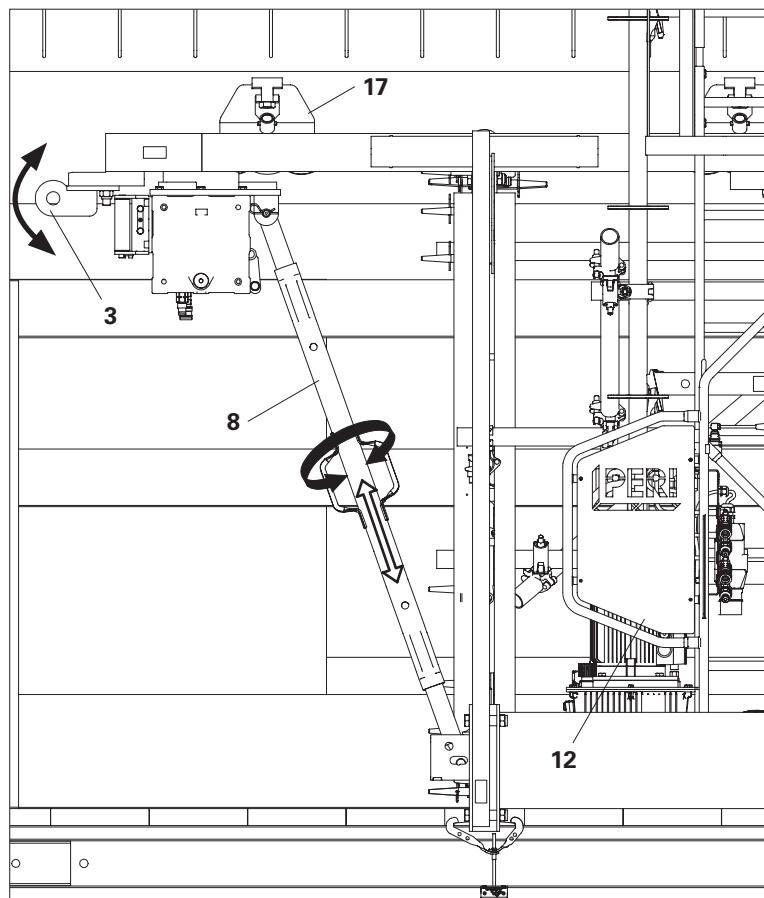

Fig. 27
Make sure that the height of the Travelling Nose 25-2 VARIOKIT (3) is optimally adjusted with the Push-Pull Prop RS 210 (8) before threading it into each Roller Unit VARIOKIT (17). Avoid tilting when threading the VARIOKIT roller unit (17). (Fig. 27)
- Switch on the Hydraulic Unit RCS 4 x 190 bar, 380 – 460 V (12), see page 23.
- Operate the Hydraulic Unit RCS 4 x 190 bar, 380 – 460 V (12), see page 24.
- Adjust the Push-Pull Prop RS 210 (8). (Fig. 27)
- Switch off the Hydraulic Unit RCS 4 x 190 bar, 380 – 460 V (12), see page 24.